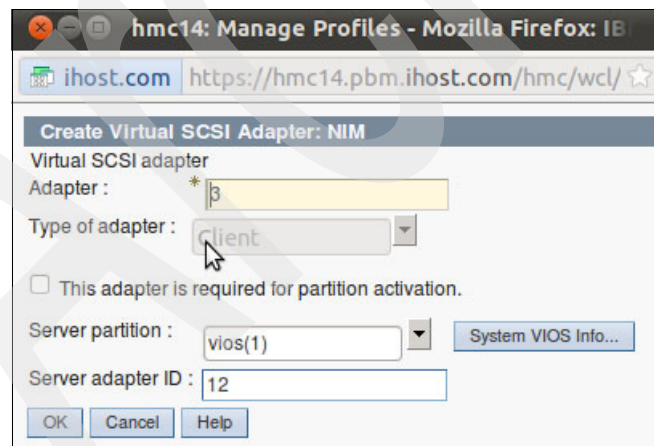
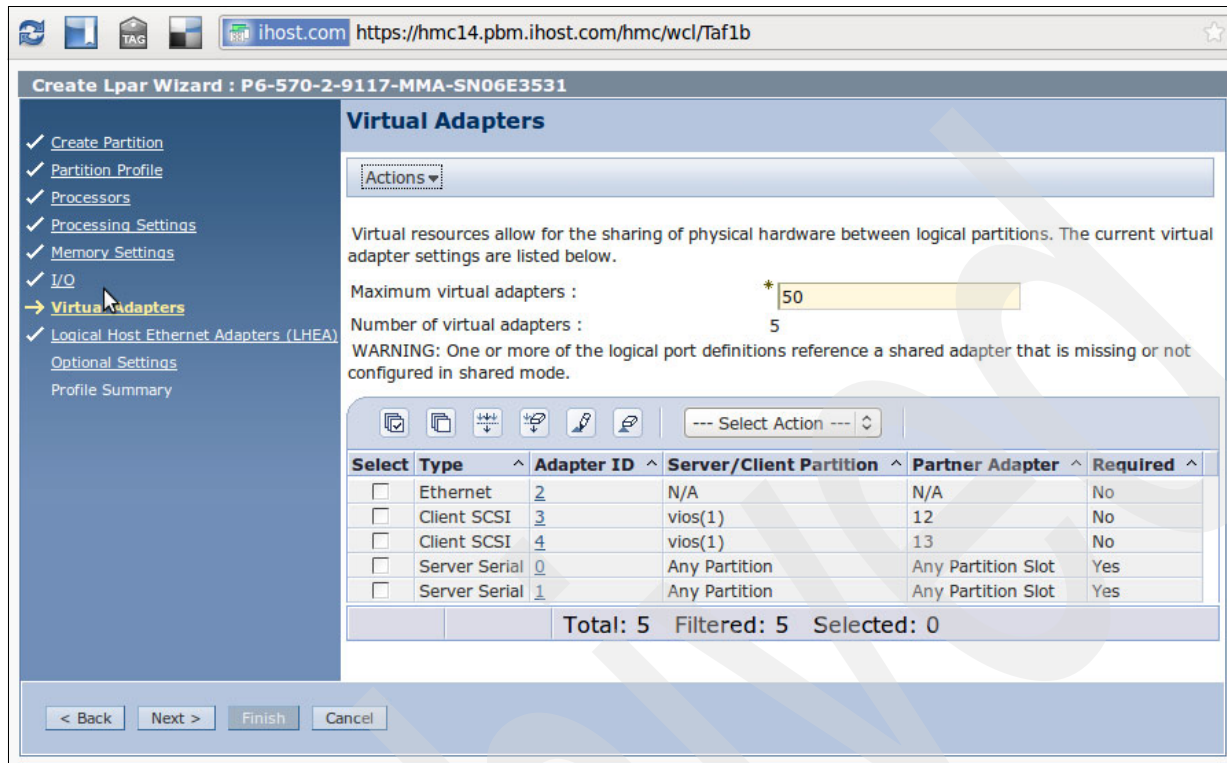

Figure 3-27 Create Virtual SCSI Adapter for NIM
Figure 3-28 Virtual Adapter settings
After selecting Create Virtual Adapter and SCSI Adapter, the window that is shown in Figure 3-27 opened. At this point, we selected **vios(1)**. The value for the Virtual SCSI adapter adapter was prepopulated with the value 3 and the value of the Server adapter ID was prepopulated with the value 12.
As a result of clicking **OK** in the Create Virtual SCSI Adapter panel, a summary is provided, as shown in Figure 3-28.
In Figure 3-28, the second row (Client SCSI type) lists the attributes of virtual adapter ID 3 as VIOS(1) with a Partner Adapter of 12, which are the values specified earlier in Figure 3-27 on page 50.